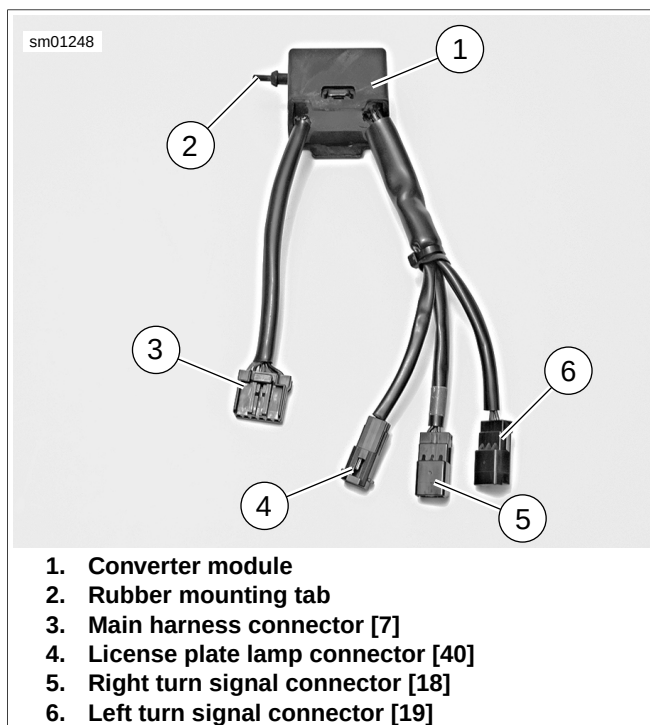

Figure 6-92. Converter and Interconnect Harness
In order for a single filament to function both as turn signal and brake lamp, a converter module is required. See Figure 6-92. The converter module (1) is incorporated into an interconnect harness that connects the main wiring harness to the rear lighting harnesses.